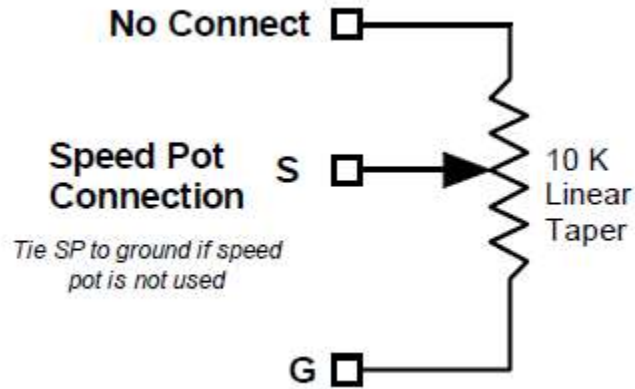

Figure 4 – Speed pot Connection
- 15) Now wire up the speed pot. Only two lugs are connected, one to ground **G** and the center lug to the **S** pad. Looking at the pot from the back the lug clockwise from the center goes to ground. Please refer to Fig. 4 on page 6. ***If you are not using a speed pot be sure to install and solder a piece of resistor lead between pads S and G.***